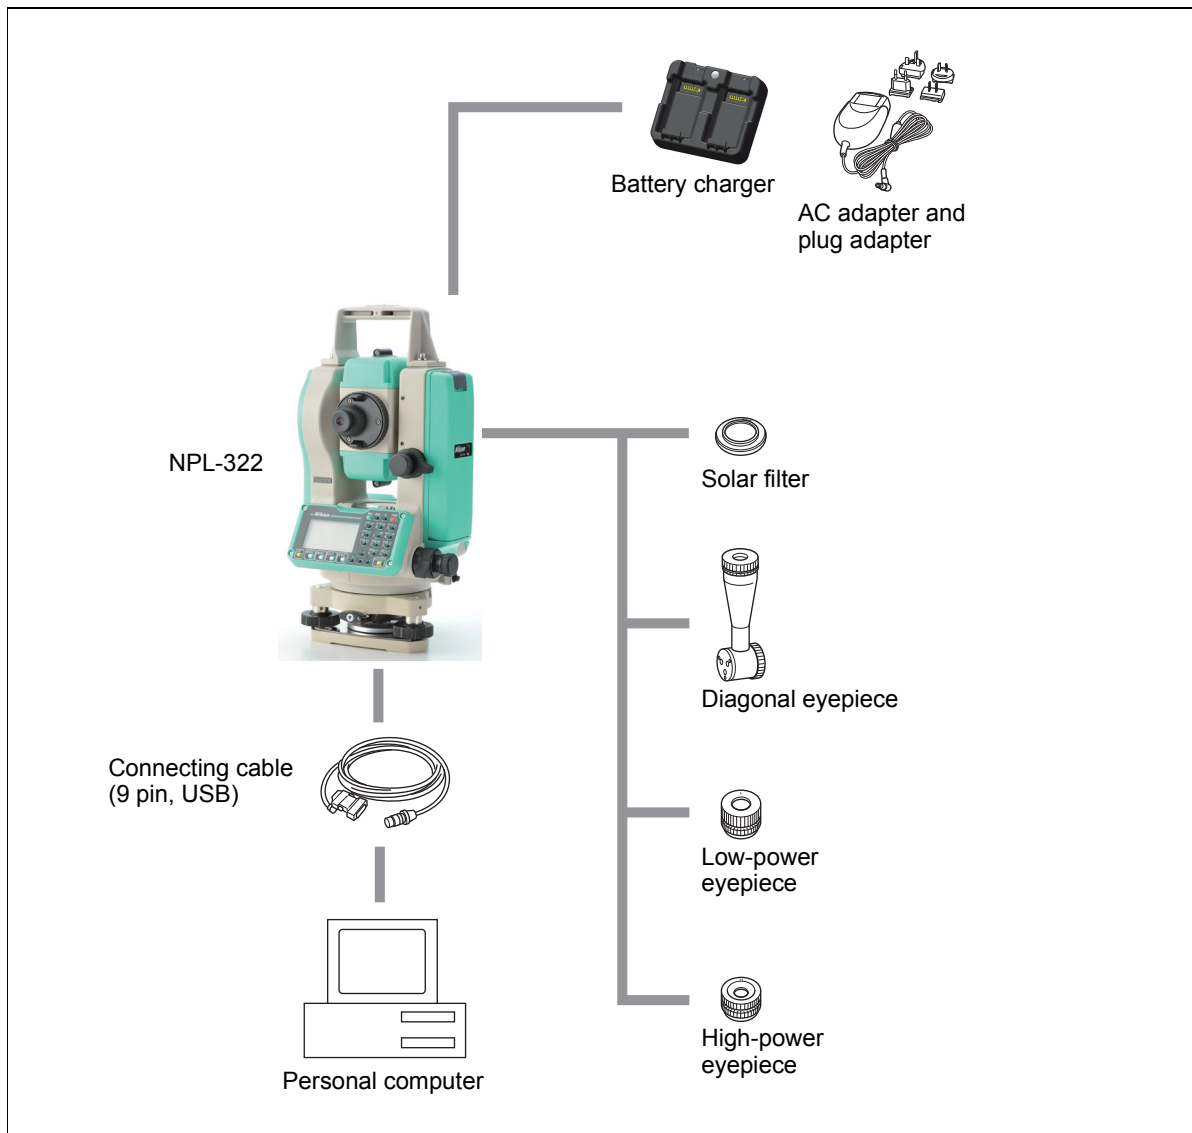

Figure 8.1 Measurement side
**CAUTION** – Except for the connection shown in Figure 8.1 on page 156, use of this connector is at your own risk.